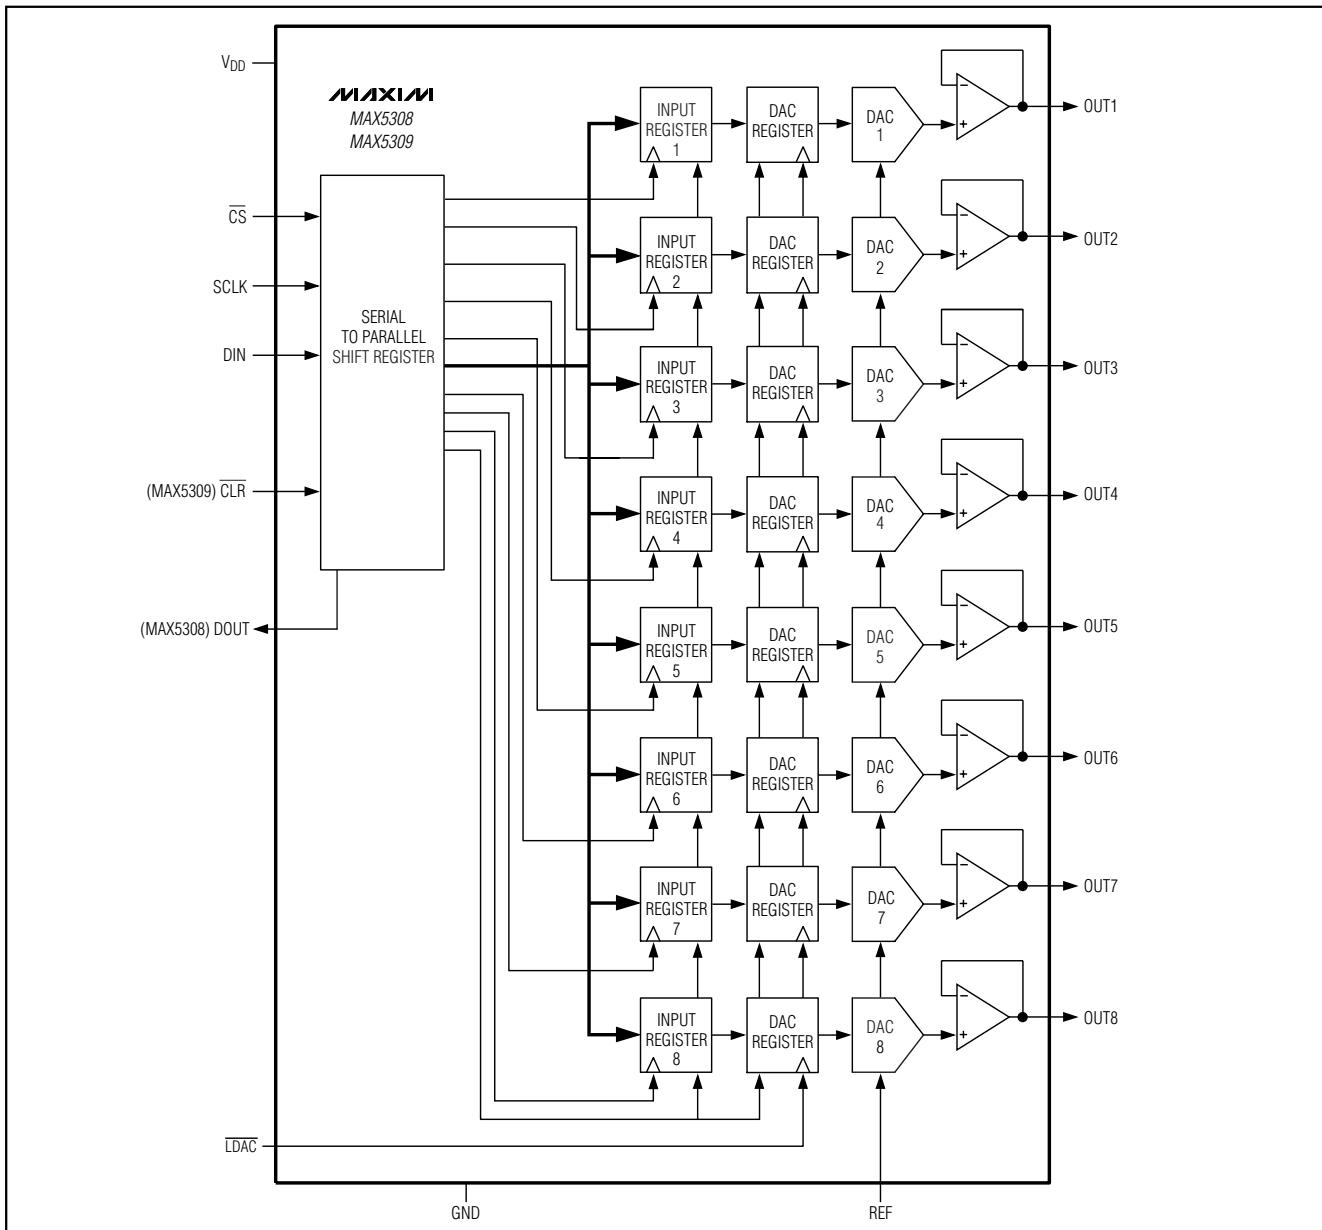

Figure 1. Functional Diagram
Figure 1 shows the block diagram of MAX5308/MAX5309. The shift register converts a serial 16-bit word to parallel data for each input register operating with a clock rate of up to 15MHz. The 3-wire digital interface to the shift register consists of chip-select (CS), serial clock (SCLK), and data input (DIN). Serial data at DIN is loaded on the falling edge of SCLK.